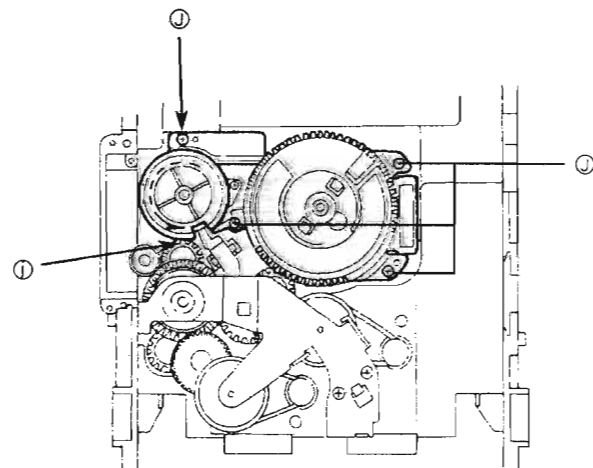

Fig. 43
4. Rotate the Cam gear L so that the select gear's ① is positioned as shown in Fig.43.
5. Remove 4 screws ① securing the cam unit which includes the cam gear L and Cam R1, R2 ass'y. (See Fig 43.)